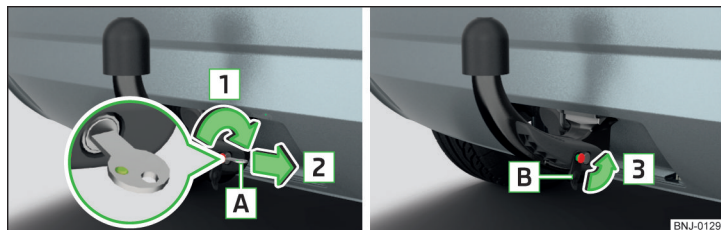

Fig. 248 Secure the lock and remove key / place cap on lock
- › Turn key **A** in the direction of arrow **1** so that the green marking is pointing upwards » Fig. 248.